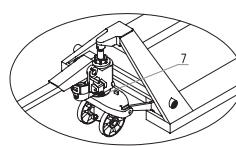

Fig.3
See figure 3. Turn the hand grip to the level position, pull out pin and save pin (7) with care for next use.